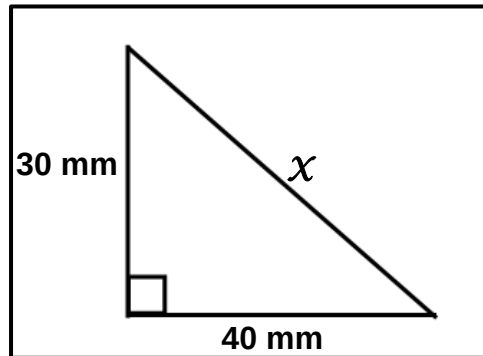

FIGURE 4.12
4.12 What is the length of  $\chi$  in FIGURE 4.12 below?